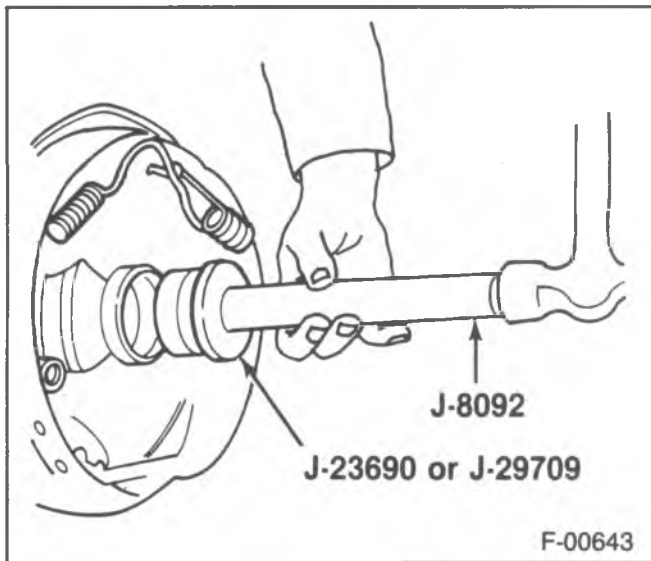
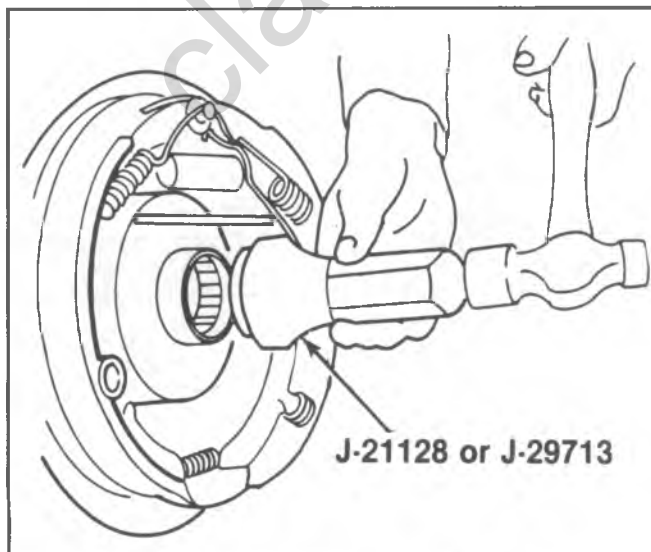

Figure 13—Installing the Wheel Bearing
Figure 14—Installing the Seal
- Lubricate the axle cavity between the seal (14) lips and the bearing (15) with wheel bearing lubricant. Refer to MAINTENANCE AND LUBRICATION (SEC. 0B).
1. Bearing (15).
- Bearing (15) into the axle (16) housing until the tool bottoms against the tube. Refer to figure 13.
2. Seal (14).
- Drive the tool into the bore until the seal (14) bottoms flush with the end of the tube (figure 14).
3. Axle shaft (12).
- Be careful not to damage the seal (14) when inserting the axle shaft (12).